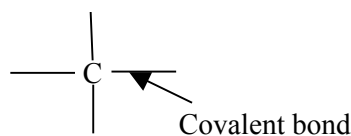

Figure 1.1 Carbon atom with its four bonds
In covalent bonding, electron sharing occurs between two or more atoms. For example, each carbon atom (C), Fig. 1.1 has four outer electrons, and all can be shared with four other carbon atoms to make four bonds, each consisting of two interlocking electron clouds.